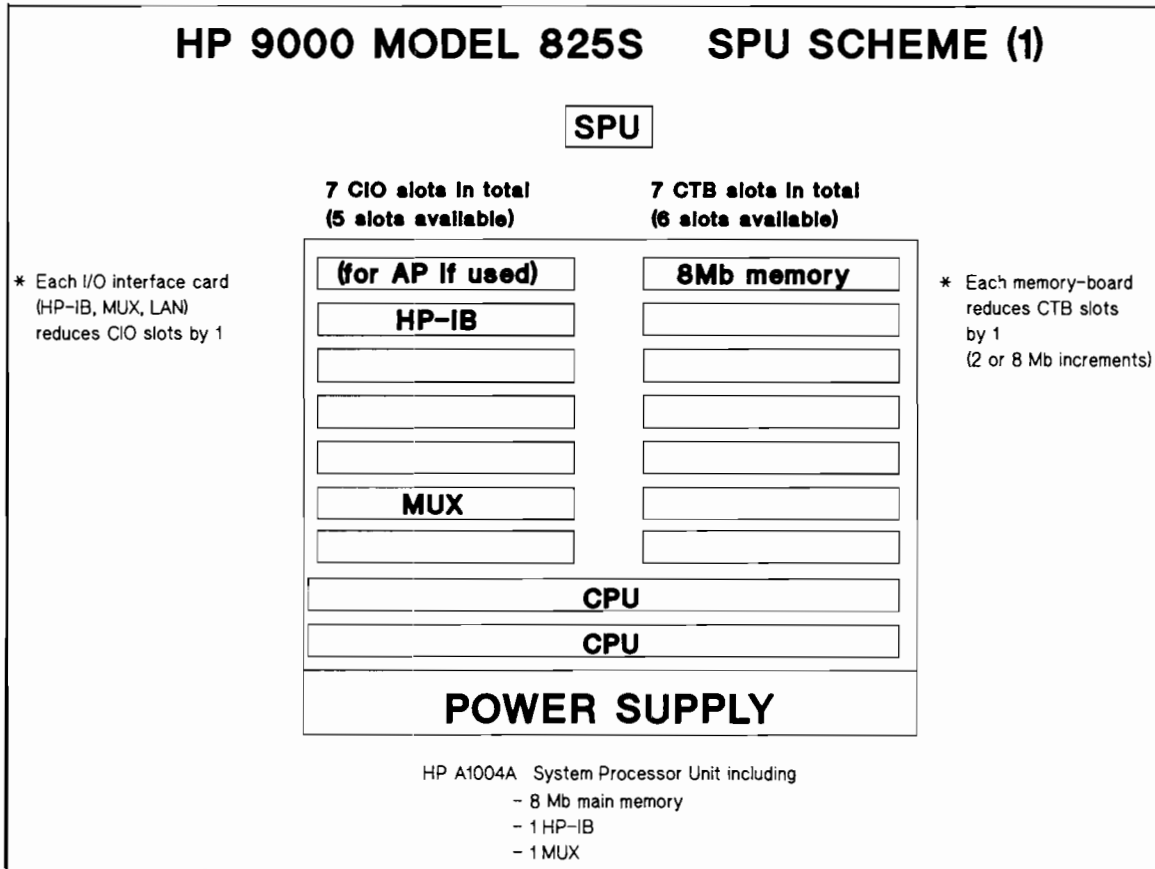

Figure 2
The standard Model 825S SPU (see Figure 2) comes with:
The central bus (CTB) of the Model 825S has six slots left for adding more memory (see Figure 2) and/or for adding a CIO expander. One CTB slot is initially taken by an 8 Mb memory board.
The 825S has five CIO slots left for adding interface cards such as HP-IB, MUX and LAN, since two CIO slots are initially occupied by one MUX and one HP-IB (Figure 2). Connecting the optional Access Port (AP) for remote diagnostics to the 825S would take another CIO slot.